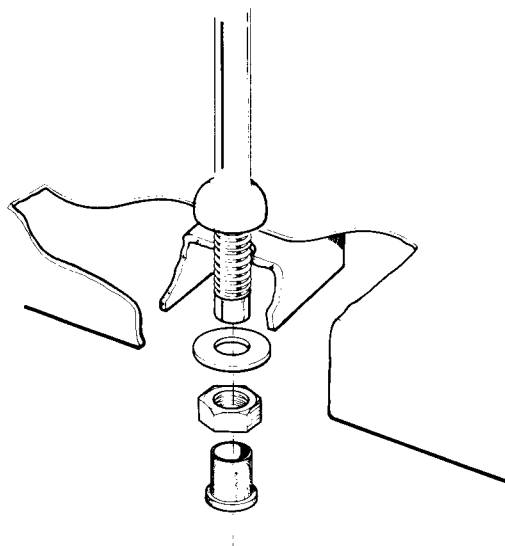

Fig. 9 Reinforcing channel
3. Secure the wingmirror to the wing in the new position with the original nut and washers using the channel, reinforcing as indicated in fig. 9.